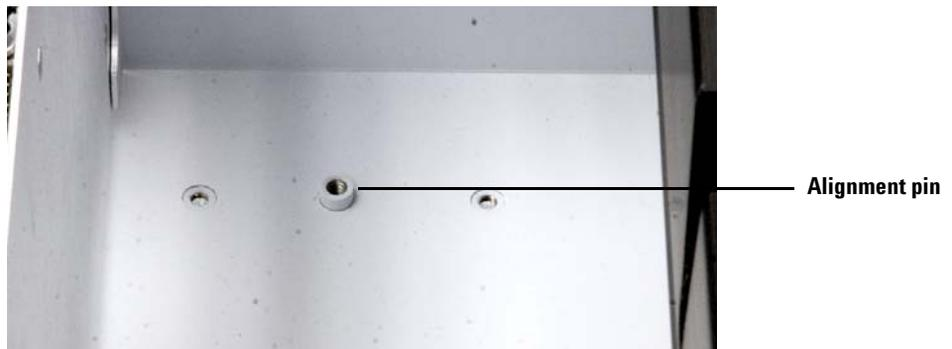
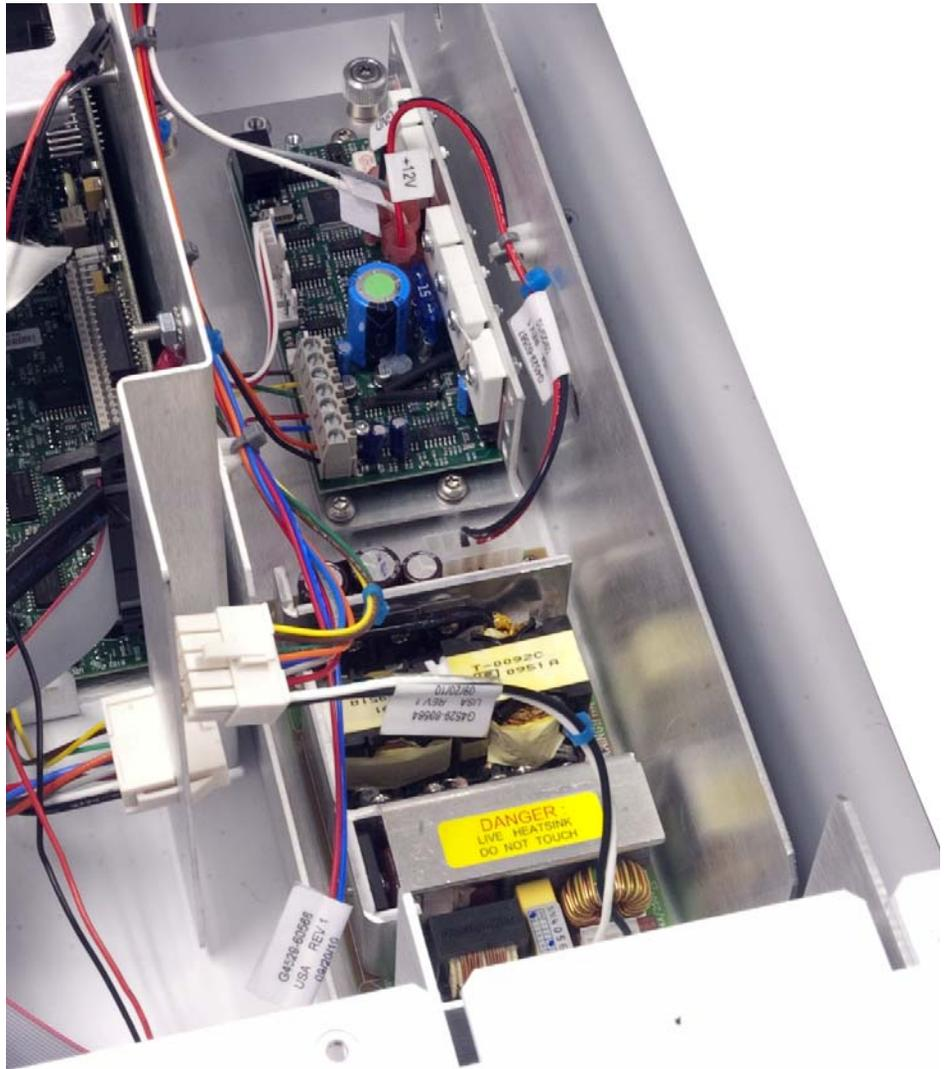

Figure 29 An alignment pin in the main frame chassis
Figure 30 The Peltier power control board installed in the main frame chassis
- 6 Carefully lower the Peltier power control board into the main frame chassis using the alignment pins for guidance (Figure 29 and Figure 30).